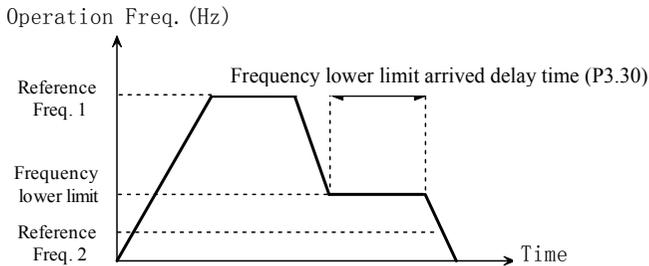

Figure. 5-2-4 Zero-speed running
- ◆ Option 1(Zero frequency running): if the setting frequency is lower than the lower limit frequency, the inverter should run at the lower limit frequency, and run at 0 frequency after the delay time arrives at P3.30, as shown in Fig. 5-2-4.